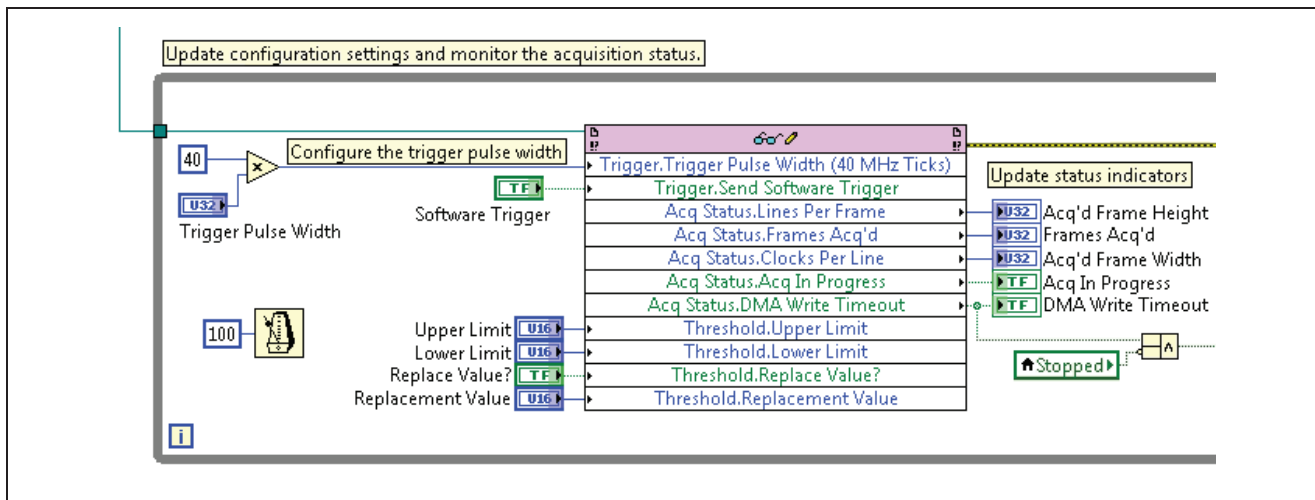

Figure 9. Send Software Triggers Loop
27. On the block diagram, locate the loop labeled **Update configuration settings and monitor the acquisition status**. While referring to Figure 9, add the following elements to the Read/Write control in the loop: **Threshold.Upper Limit**, **Threshold.Lower Limit**, **Threshold.Replace Value?**, and **Threshold.Replace Value**. Create controls for each new element.